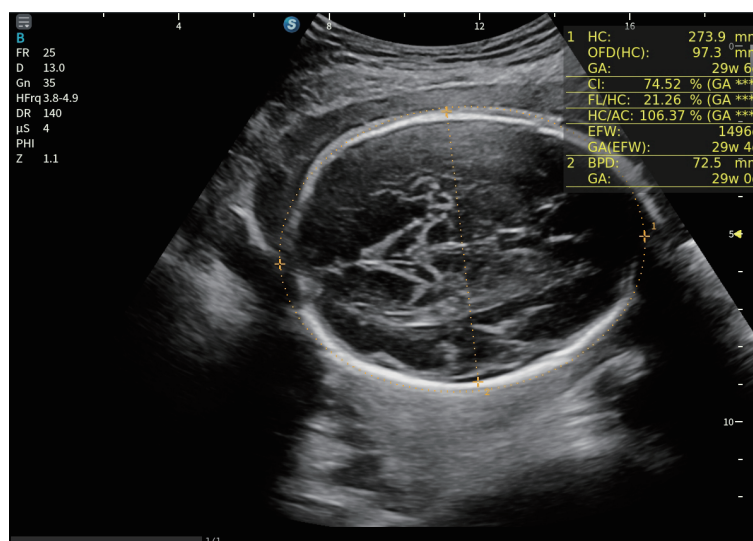

Figure 6-73 Image Display _ S-Fetus(meas.)
1. Tap **S-Fetus(meas.)** on the touch screen to automatically measure the current section. The measurement results are displayed on the basic screen, as shown in Figure 6-73.